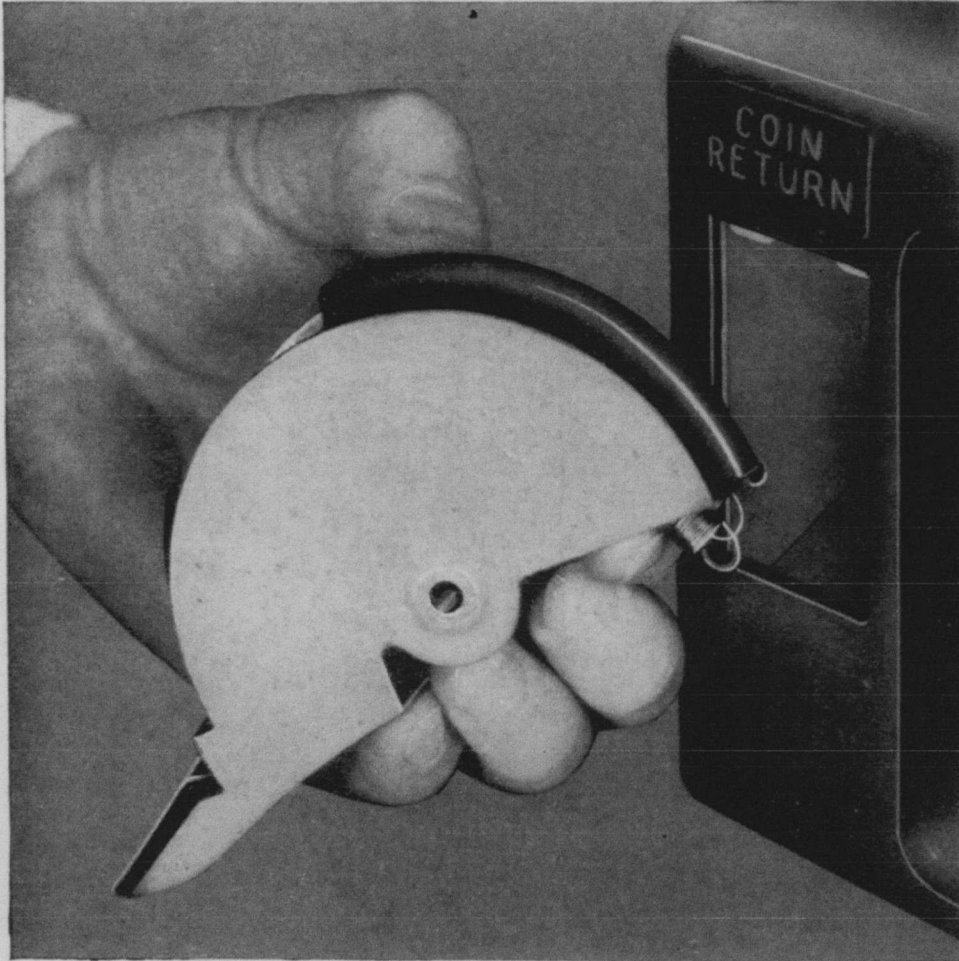

Fig. 24
- (6) Hold bucket as shown in Fig. 24. Support springs with finger so springs extend slightly into chute opening.